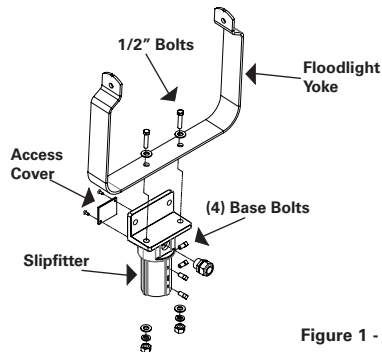

Figure 1 - SFA6
1. Using the 1/2" bolts, nuts and lock washers provided, securely fasten the floodlight yoke to the flange on the SFA6 slipfitter. Refer to Figure 1 for slipfitter assembly. Torque the bolts to 45 lbs.-ft.